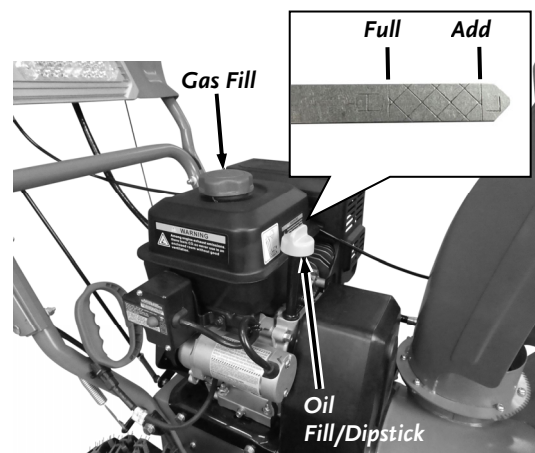

Figure 38
4. Remove the Oil Fill/Dipstick and initially add 3/4 of oil (type of oil recommended by the Engine Manufacturer) into the Oil Fill and wait one minute for the oil to settle (**Figure 38**).